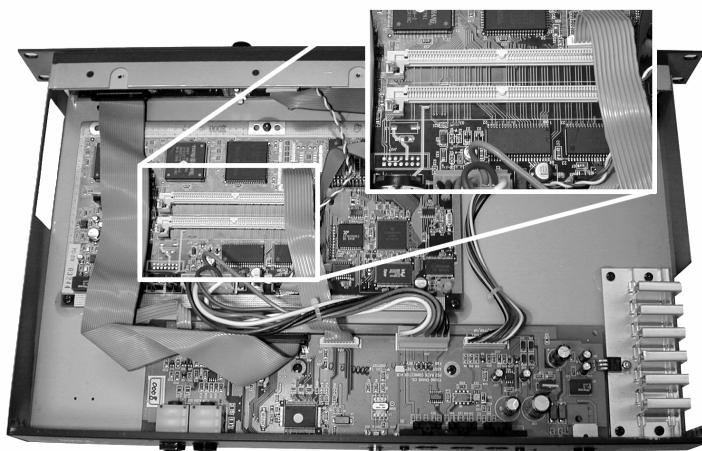

Figure 12 PC2R Engine board and SIMM sockets for option boards
1. Locate the Engine board, and identify the SIMM socket for the board you are installing: J409 for PCR-1, or J410 for PCR-2. Both sockets are shown in Figure 12.